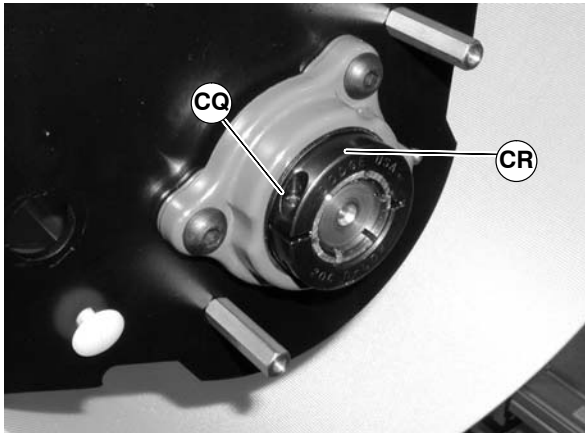

Figure 91
3. Loosen clamp screw (CQ of Figure 91) and remove bearing collar (CR).
7. Reinstall bearing collar (CR of Figure 91). Tighten clamp screw (CQ) to 95 in-lbs (11 N-m).